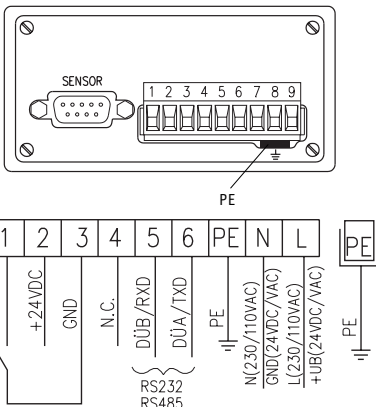

Fig. 2: Pin outs EG
- PE-connection with 2.5 – 4 mm² via PE-clamp (fig. 2).
via 9-poles rear side SUB-D socket (fig. 2).